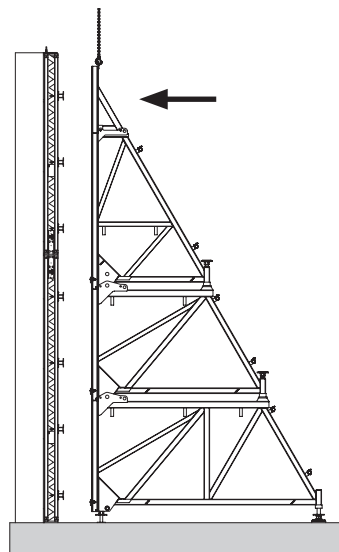

Fig. B2.03a
2. Lift the Brace Frame with the crane behind the steel walers/Distribution Walers. (Fig. B2.03a)